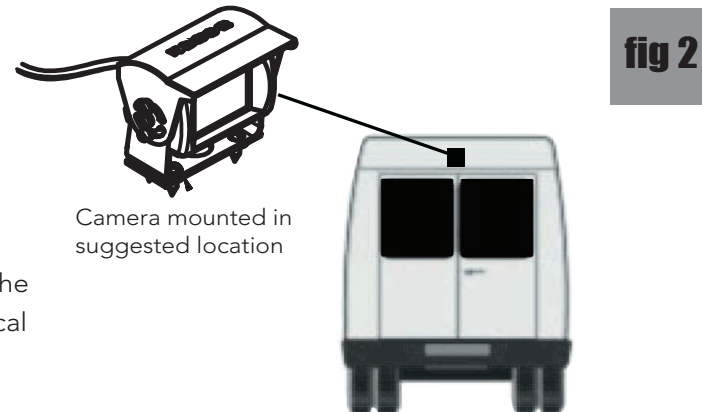

fig 2
- Select a high and centered location at the rear of the vehicle to mount the STSC141 camera. See Figure 2 & 3.